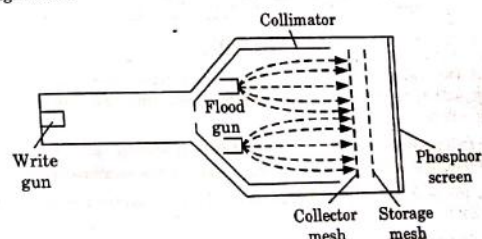

Fig. 4.20.2. Storage mesh CRT.
6. The electron paths are adjusted by the collimator electrode which continues a low voltage electrostatic lens system as shown in Fig. 4.20.2.